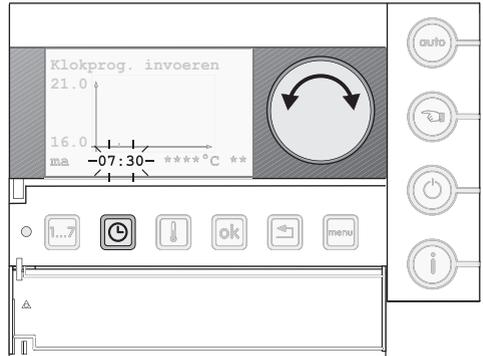

Fig. 23 Set-up time in time program
- Keep the button "time" pressed and turn the set-up button to set-up the desired time (Fig. 23).